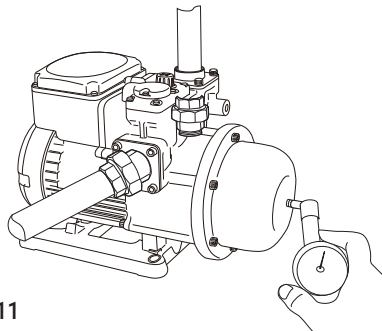

Fig. 11
5. Pressure tank air charge should be checked at regular intervals of every 6 months and after the pump has not been used for a prolonged period. To check the Tank pressure, turn off power, open the tap on discharge line to release pressure from the pump, unscrew the black plastic cover and place a pressure gauge on it as shown in Fig 11.